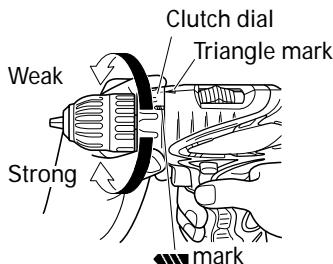

Fig. 16
7. Confirm the clutch dial position (see Fig. 16).
(2) Tightening torque indication (See Fig. 16)
- (3) Adjusting the tightening torque (See Fig. 16)